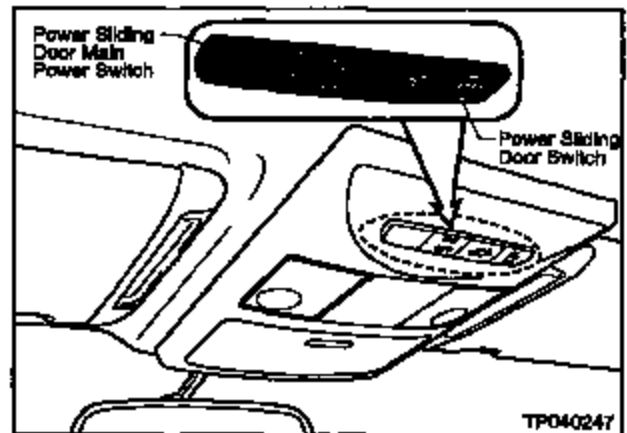

Figure 21
21. Make sure the Power Sliding Door Main Power Switch is OFF (see Figure 21).